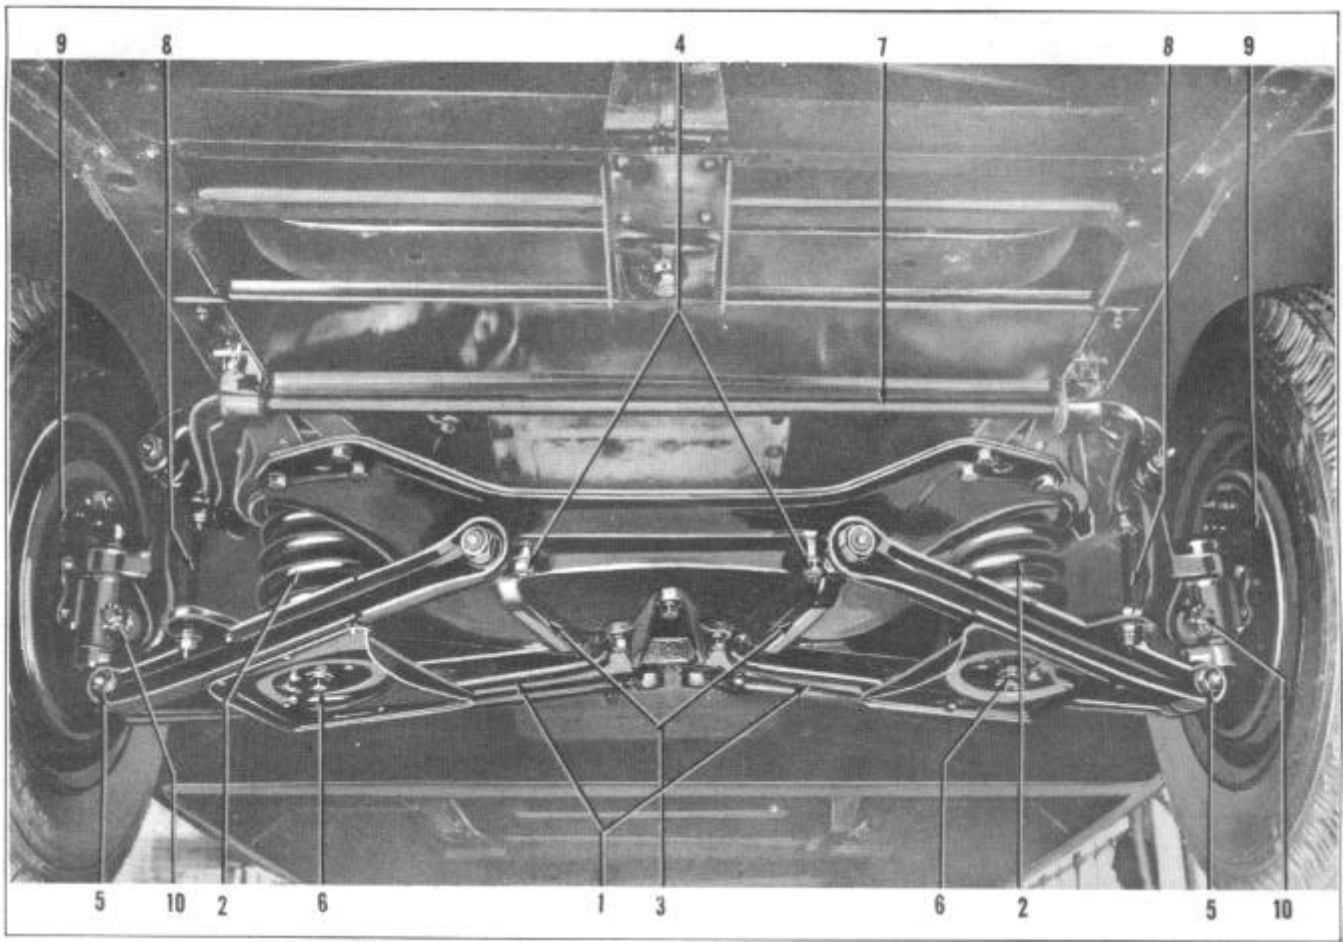

FIGURE 1
1. Raise car and place stand jacks under inner ends of the lower support arms (1), Figure 1.
4. Remove shock absorber lower mounting nuts and washers (6) Figure 1. Turn shock absorber 1/4 turn and remove through opening.
2. Install coil spring (2), Figure 1.
3. Remove front and rear bushings of the lower support arm pivot (3), Figure 1.
4. Remove the four bolts (4) that hold lower pivot to front crossmember.
5. Remove pivot (3) from lower support arm.
1. Install the lower support arm pivot (3), Figure 1.
1. Place a jack under the lower support arm (1), Figure 1, and raise the car.
2. Remove cotter key, nut, and washer from the lower support arm to spindle support pivot pin, (5).
3. Remove the lower pivot pin (5) and bushing.